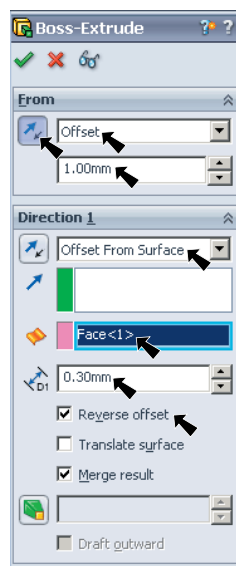

Fig. 27
Step 5. In the Property Manager, **Fig. 27** set: